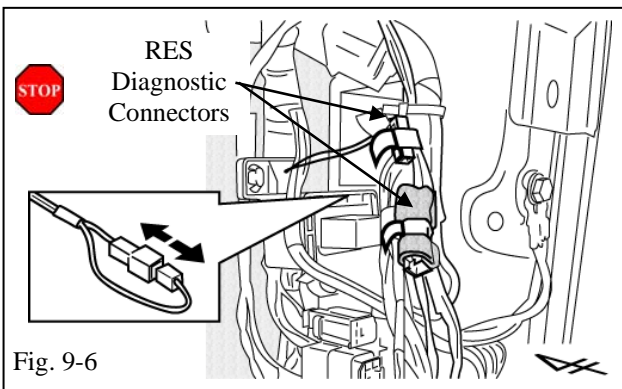

Fig. 9-6
- Disconnect the V4 Harness's WHITE 1P Connectors in the Passenger's Side Cowl Area. (Fig. 9-6)